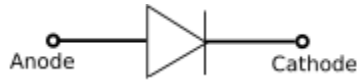

Fig. 1.2 Symbol of PN Junction diode
- Symbol of diode is given in figure 1.2.